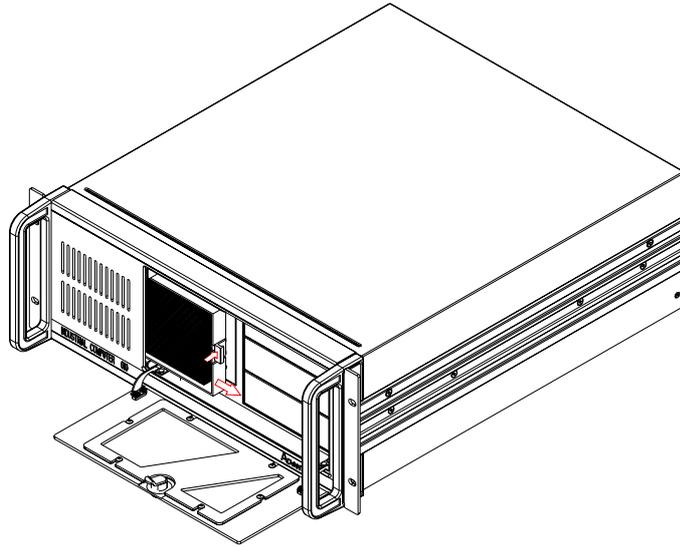

Figure 3.8 Replacing the filters for IPC-610-F/IPC-610-E
2. Pull out the filter by pushing the hook and then slide it rightwards. (see Figure 3.8)